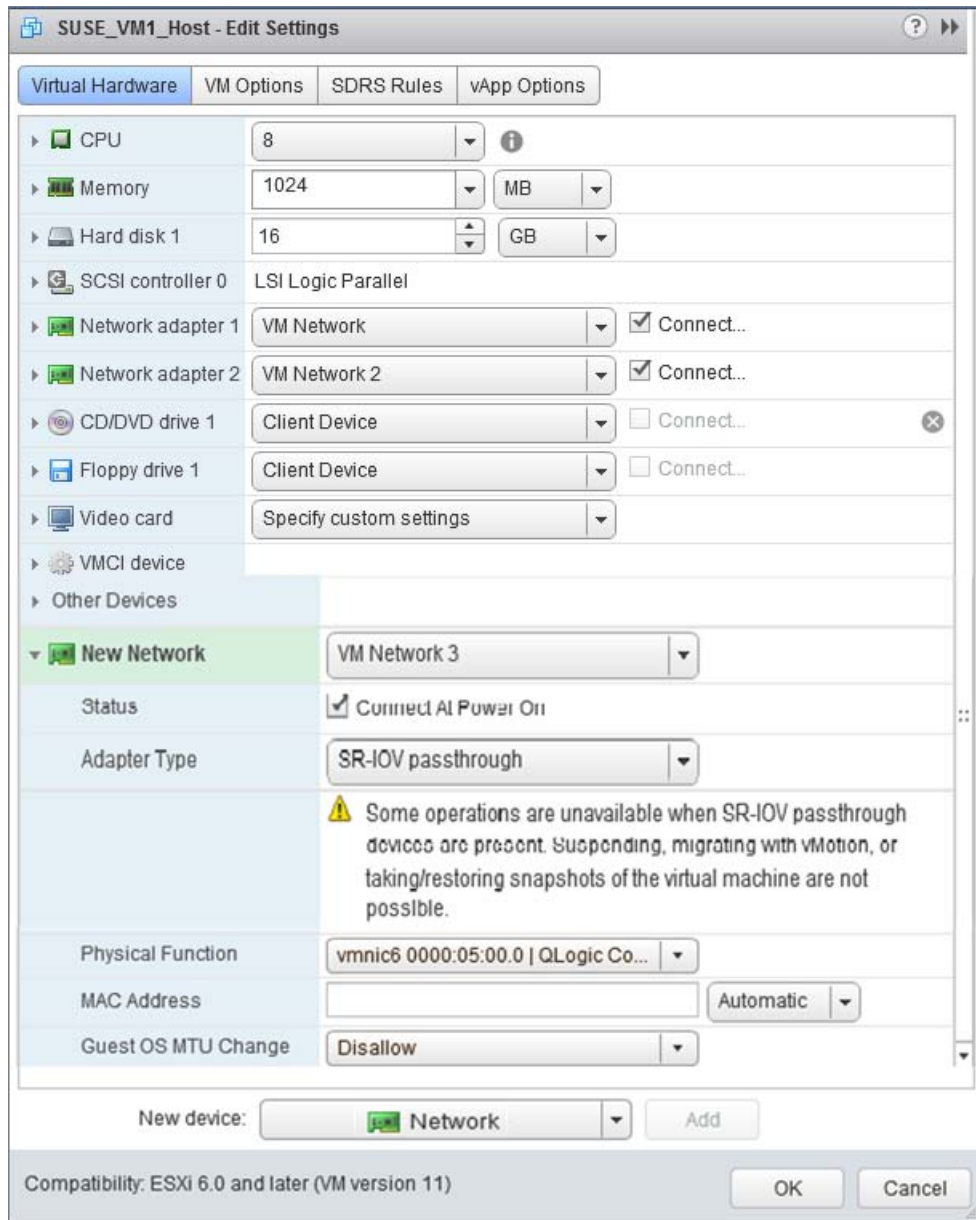

Figure 8-15. VMware Host Edit Settings
15. Complete the Edit Settings dialog box (Figure 8-15) as follows: